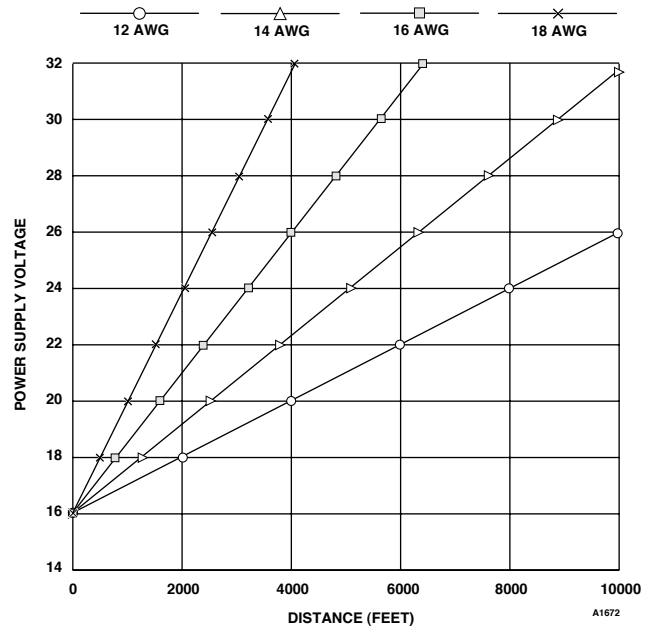

Figure 2—Wiring Requirements for Transmitters with Relays
- See Figure 2 for wiring size and maximum distance from the power supply to the transmitter.